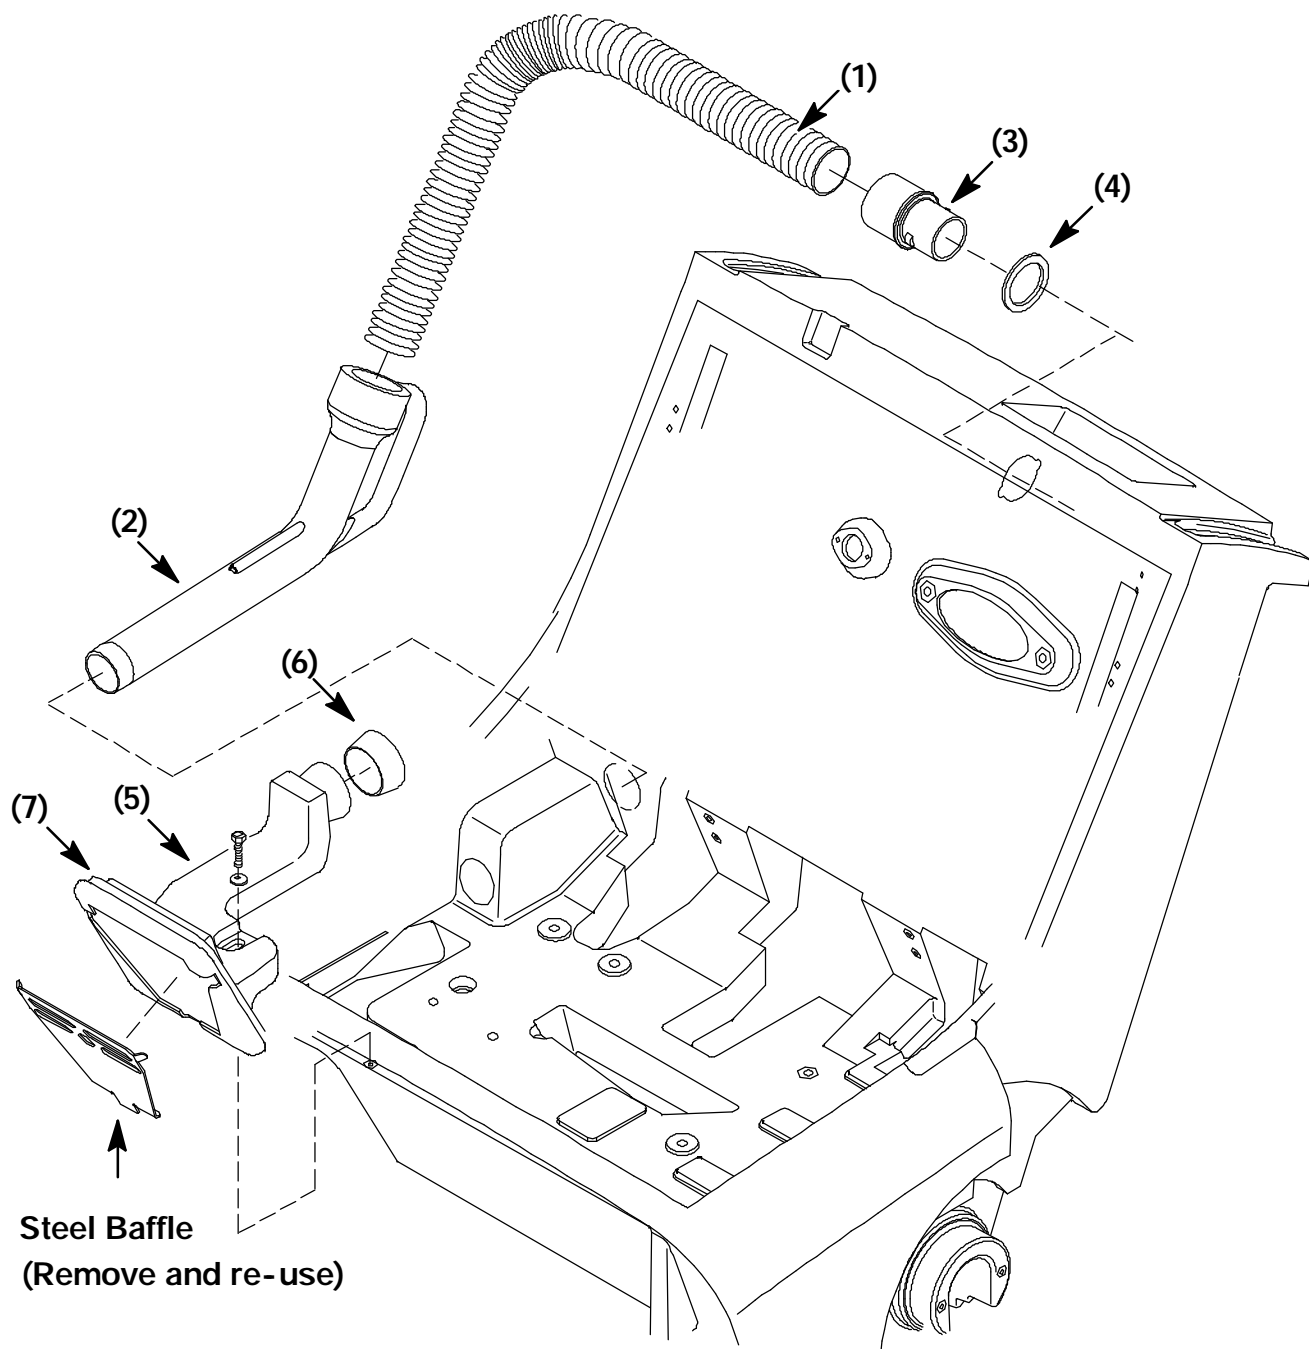

FIG. 2 Reduced Air Flow Assembly Installation
8. Install the new vacuum chamber seal (7) on the new vacuum chamber (5). (Refer to FIG. 2)
9. Install the new vacuum tube seal (6) on the end of the vacuum chamber (5). (Refer to FIG. 2)
10. Assemble the hose (1) to the wand (2) and cuff (3). Assemble the seal (4) to the cuff (3).
(Refer to FIG. 2)
11. Install the cuff into the frame. (Refer to FIG. 2)
12. Position the new vacuum chamber (5) into the machine. (Refer to FIG. 2)
13. Install the wand (2) and hose assembly through the frame, into the vacuum seal (6).
14. Reinstall the hex screw and tighten the vacuum chamber (5). (Refer to FIG. 2)